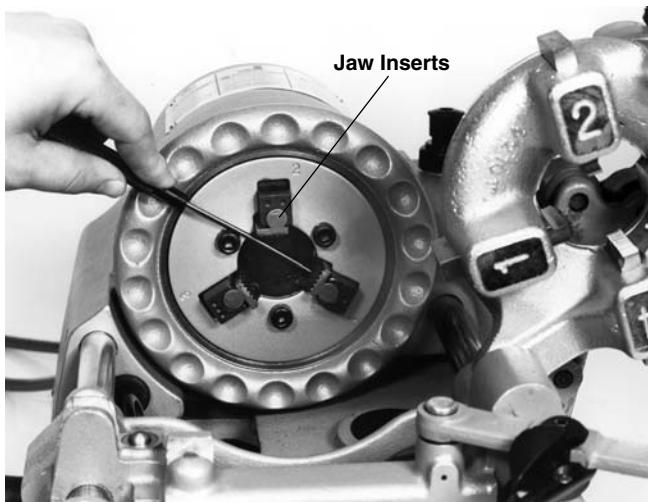

Figure 16 – Replacing Jaw Inserts
1. To remove jaw insert – place punch into spring detente slot of jaw insert and push down. (Figure 16)